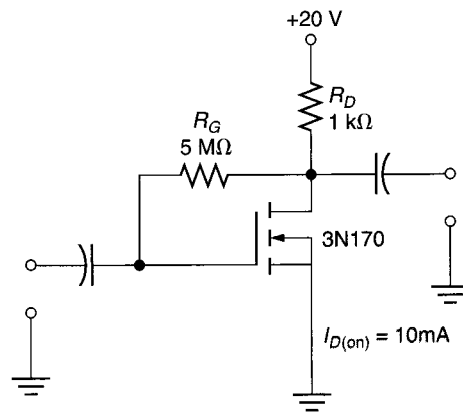

FIGURE 13.14
Determine the values of  $I_D$  and  $V_{DS}$  for the circuit shown in Figure 13.14.
8. What change(s) would you make to the circuit shown in Figure 13.14 to increase the  $Q$ -point value of  $I_D$ ?